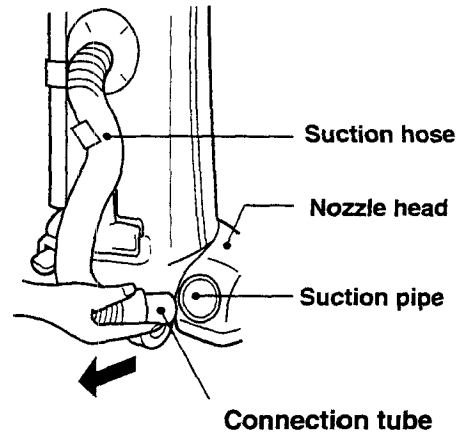

Fig. 20
- 2** Hold the connection tube of the suction hose in one hand and the handle in the other. Then pull out the connection tube from the suction pipe of the nozzle head. (Fig. 20)